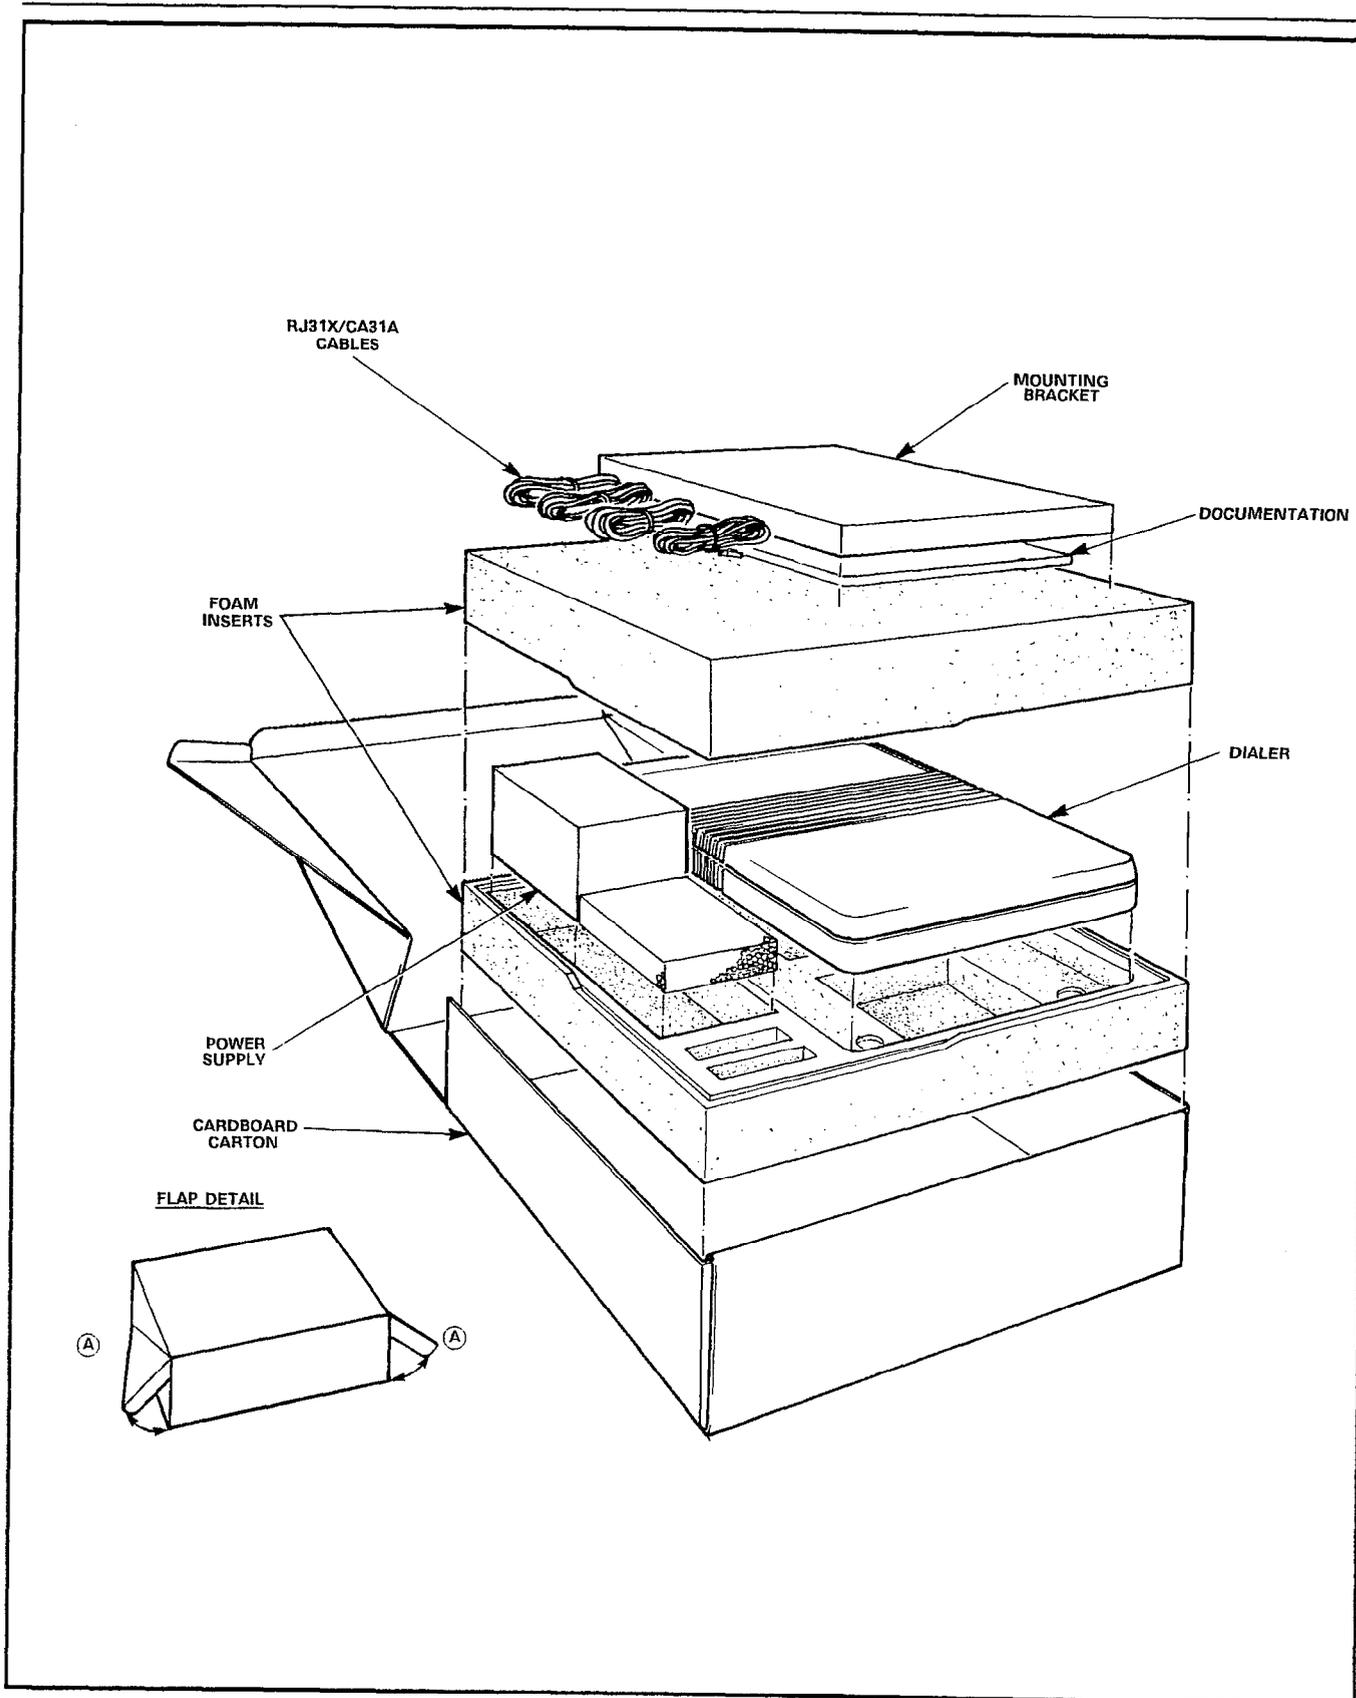

Figure 4-1, Equipment Unpacking and Repacking
4.03 The procedure below lists steps to take when unpacking the equipment (refer to Figures 4-1 and 4-2):
4.04 If an item is found to be defective or damaged and is to be returned to the vendor, it should be tagged and packaged to prevent damage. If units are to be shipped from one location to another, these units should also be packaged in such a manner as to prevent damage. Figure 4-1 shows how the equipment was originally packed. This method of packaging should be followed as closely as possible.
4.11 Connections to the Dialer are made at the Connector Panel located along the bottom edge of the housing. Figure 4-1 illustrates the connection panel. The steps below outline the connection procedure: